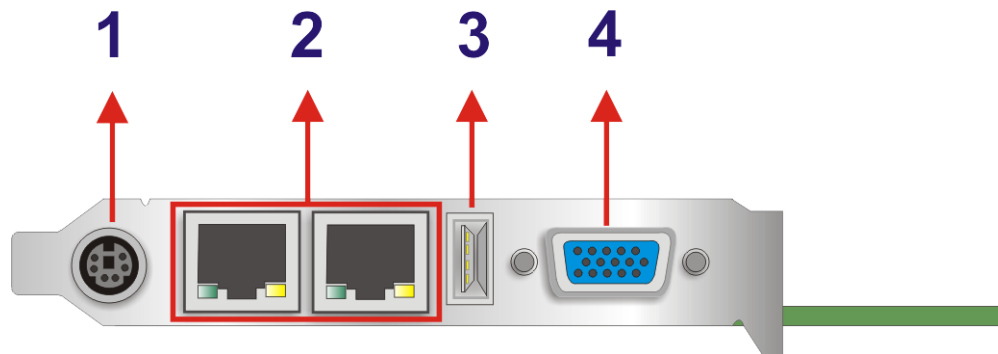

Figure 3-18: External Peripheral Interface Connector Panel
Figure 3-18 shows the WSB-9454 CPU card rear panel. The peripheral connectors on the back panel can be connected to devices externally when the CPU card is installed in a chassis. The peripheral connectors on the rear panel are:
- CN Location:** See Figure 3-18 (labeled number 2)
- CN Location:** See Figure 3-18 (labeled number 1)
CN Location:	See Figure 3-18 (labeled number 3)
CN Location:	See Figure 3-18 (labeled number 4)